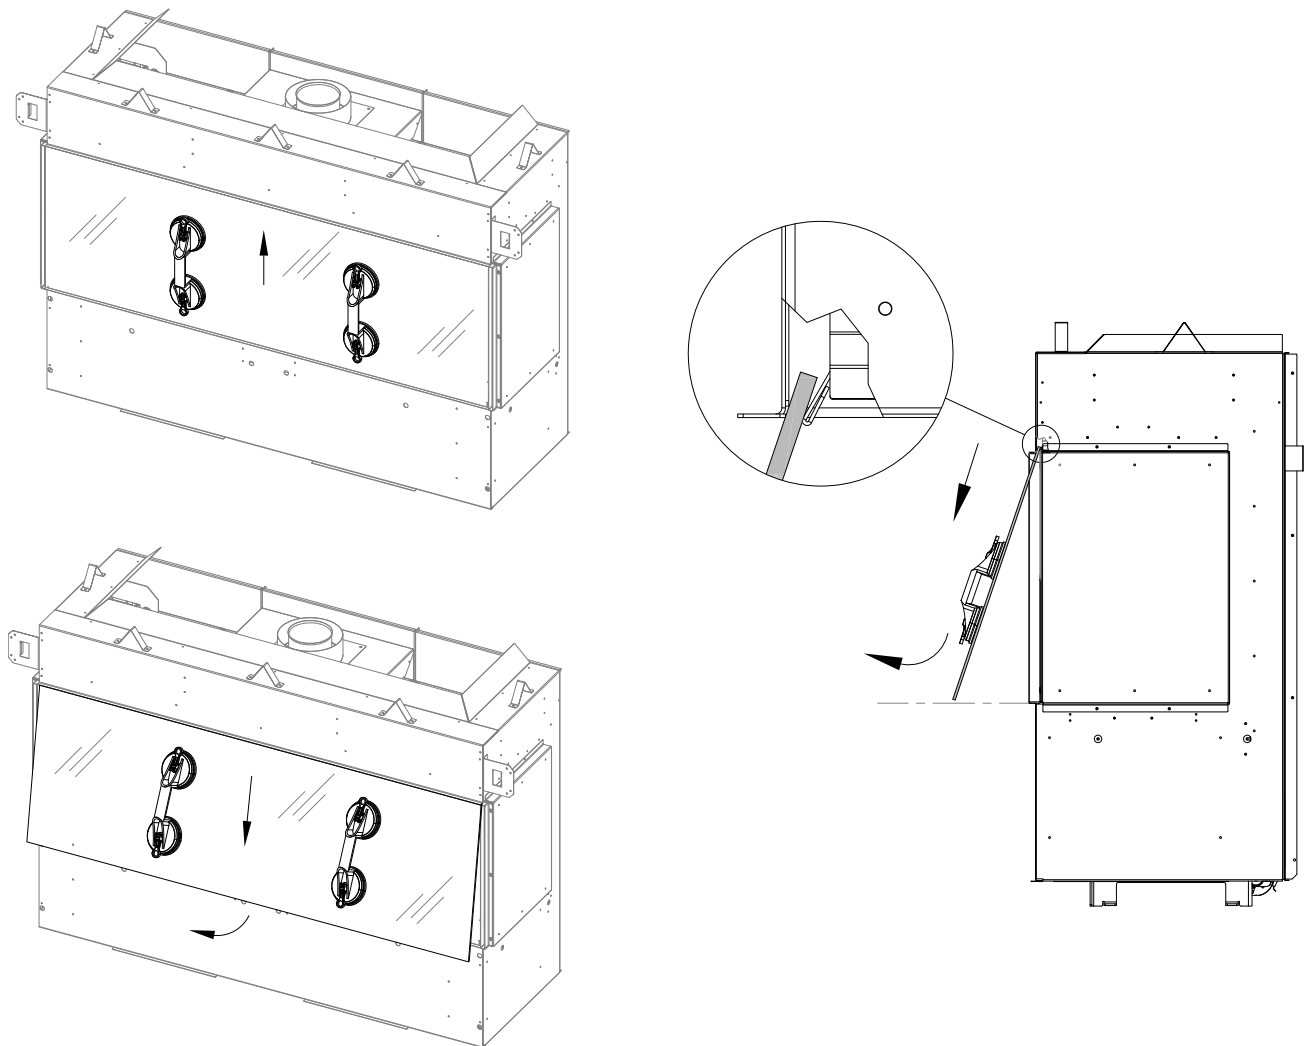

Figure 7.1 - Safety Glass Removal
1. Attach the suction cups to the front safety glass. Remove the front safety glass piece as shown in Figure 7.1. Lift up the safety glass and tilt the bottom edge of the glass towards you. Move the glass down and swing out to remove.